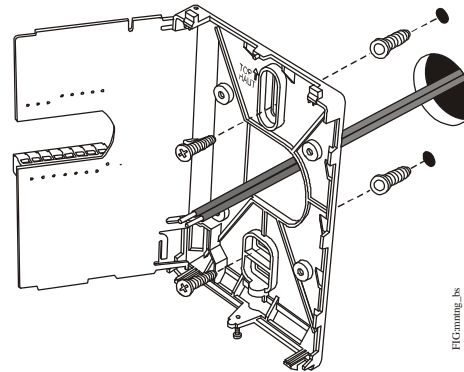

Figure 3: Securing the Thermostat Controller Mounting Base to the Wall
- Position the thermostat controller mounting base on the wall and use the two mounting screws (included with the thermostat controller) to secure the base to the wall surface as illustrated in Figure 3.